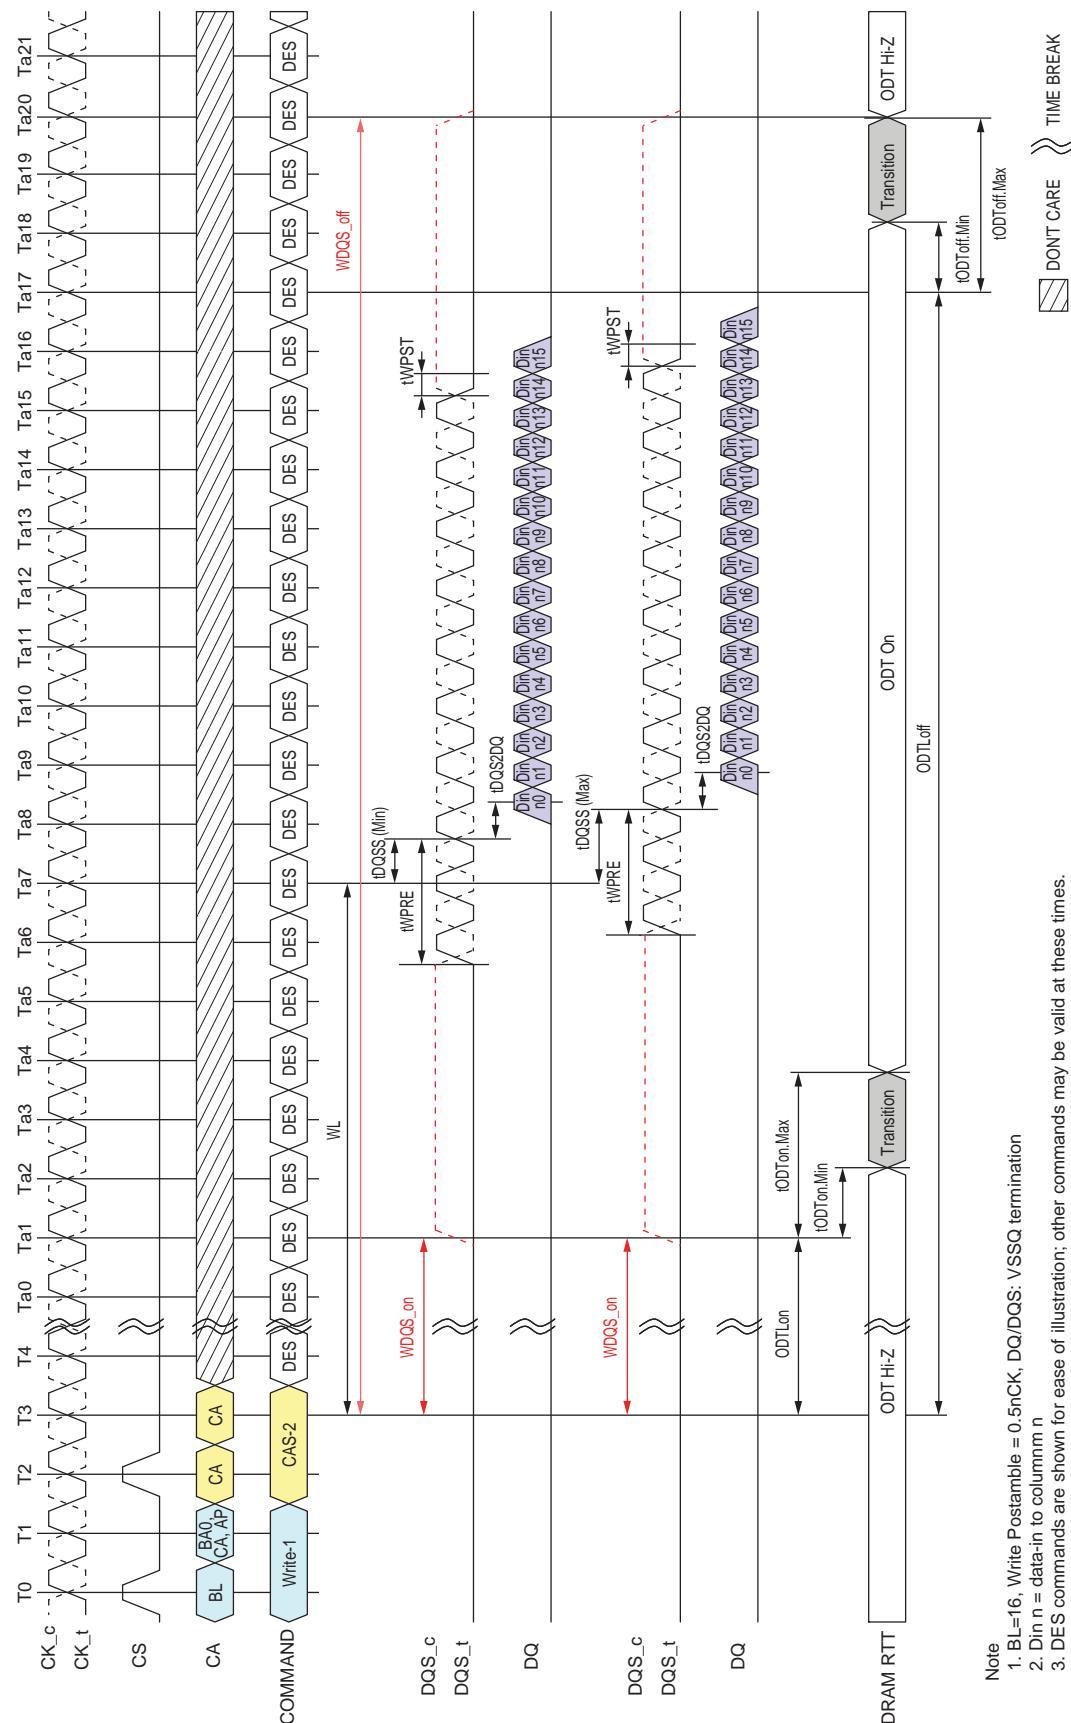

Figure 4.116 — Asynchronous ODT_{on}/ODT_{off} Timing
1. ODTLon is referenced from CAS-2 command. See Figure 4.116.